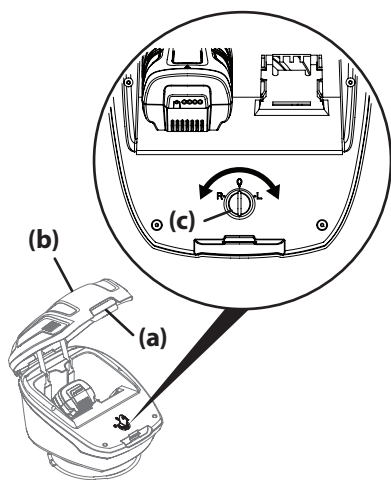

Figure 3-2
2. Insert the safety key (c) and select the right or left battery port. See Figure 3-2.